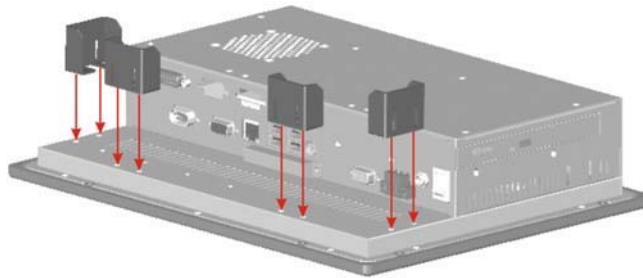

Figure 3-26: 2901250 Panel Mounting Kit
Step 1: Install the panel mounting kit onto the 2901250 real panel (**Figure 3-26**).